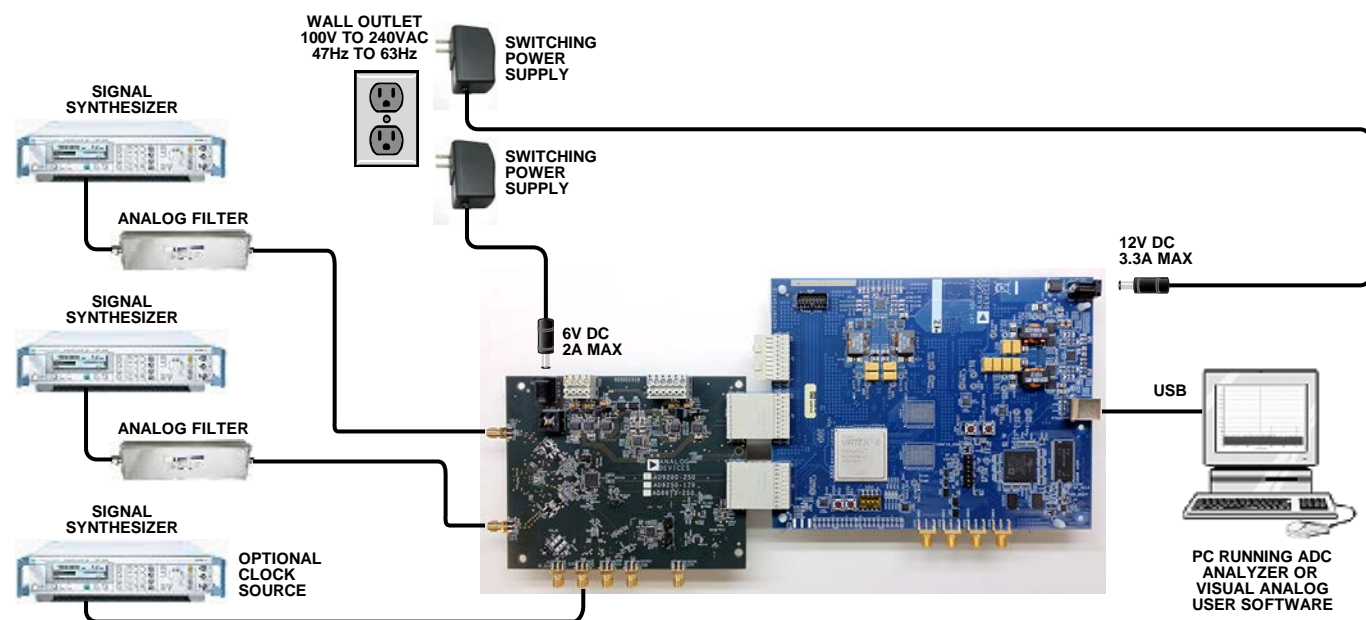

Figure 1.
1. Connect the AD9250 or the AD6673 evaluation board and the HSC-ADC-EVALDZ board together, as shown in Figure 1.